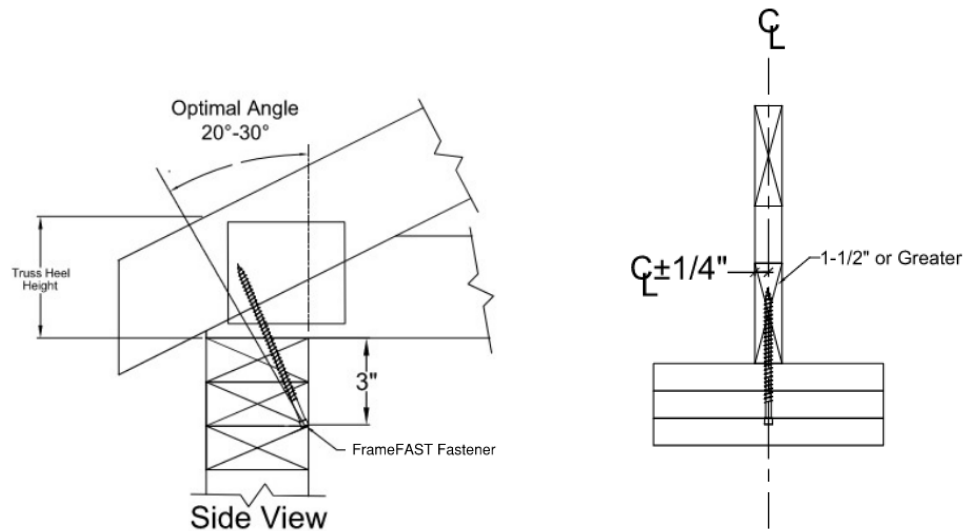
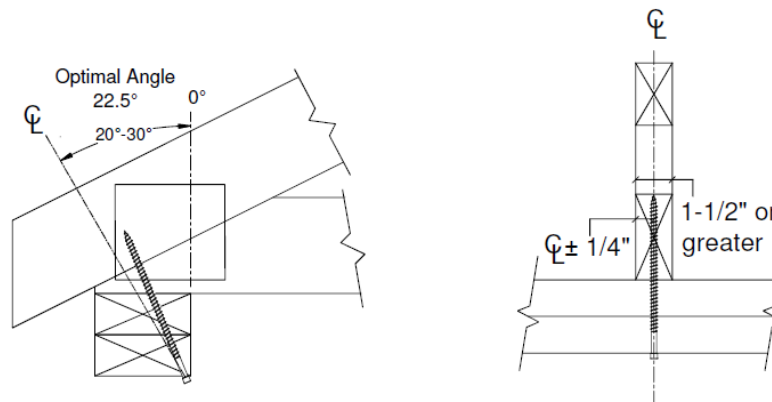
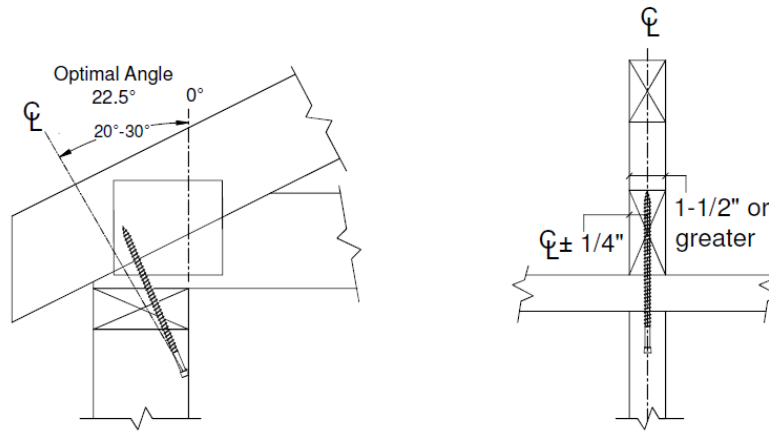

Figure 1. Installation of FrameFAST™ Fasteners on Wood Truss or Rafter to Triple Top Plate
Figure 2. Installation of FrameFAST™ Fasteners on Wood Truss or Rafter to Double Top Plate
Figure 3. Installation of FrameFAST™ Fasteners on Wood Truss or Rafter to Single Top Plate
- 1.3 Select a FrameFAST™ fastener with a length sufficient to fully embed 2 1/2" of the fastener length into the truss or rafter. See Figure 1, Figure 2, and Figure 3 for guidance.
- 1.5 The fastener shall be installed at a 20° - 30° angle and shall penetrate the wood truss or rafter within 1/4" of the centerline. See Figure 1, Figure 2, and Figure 3.